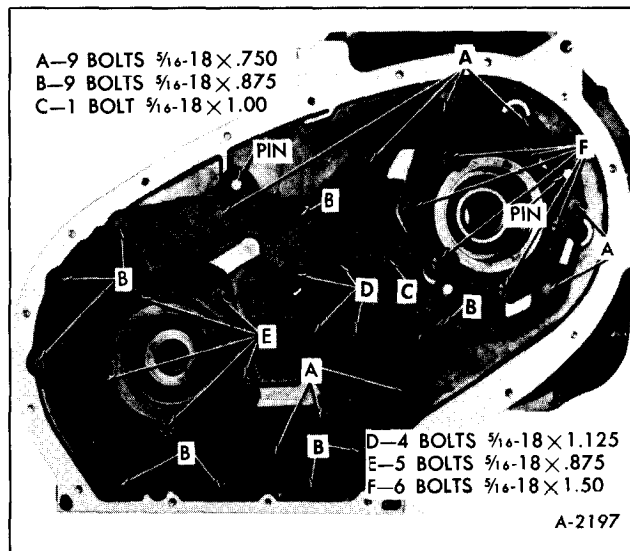

Figure 80-Pump Cover Plate Screws
2. Install pump cover plate on transmission and install attaching bolts per bolt chart, Figure 80.
3. Install six retaining bolts (F), finger tight, Figure 80.